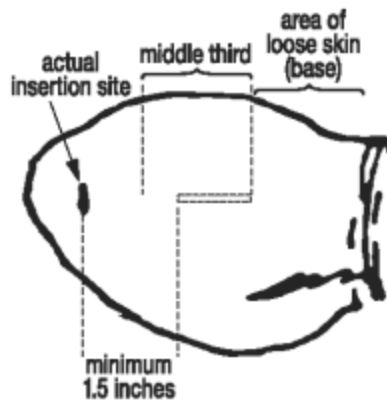

Figure 4
- Pull the needle back as the implant is being deposited by squeezing the lever on the implanter grip. Figure 4 shows the implant in proper position in the middle third of the ear where the skin is tight.